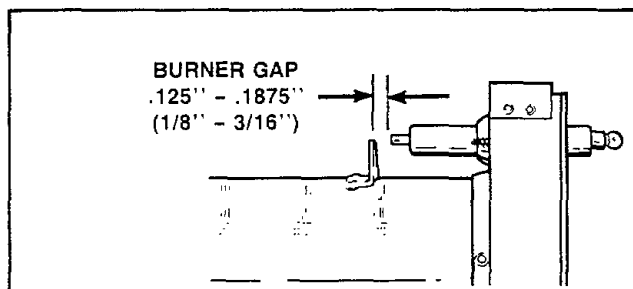

Figure 24
**IMPORTANT:** When reinstalling igniter on burner, gap between igniter and burner tab should be .125" - .1875" (1/8" to 3/16"), Figure 24.